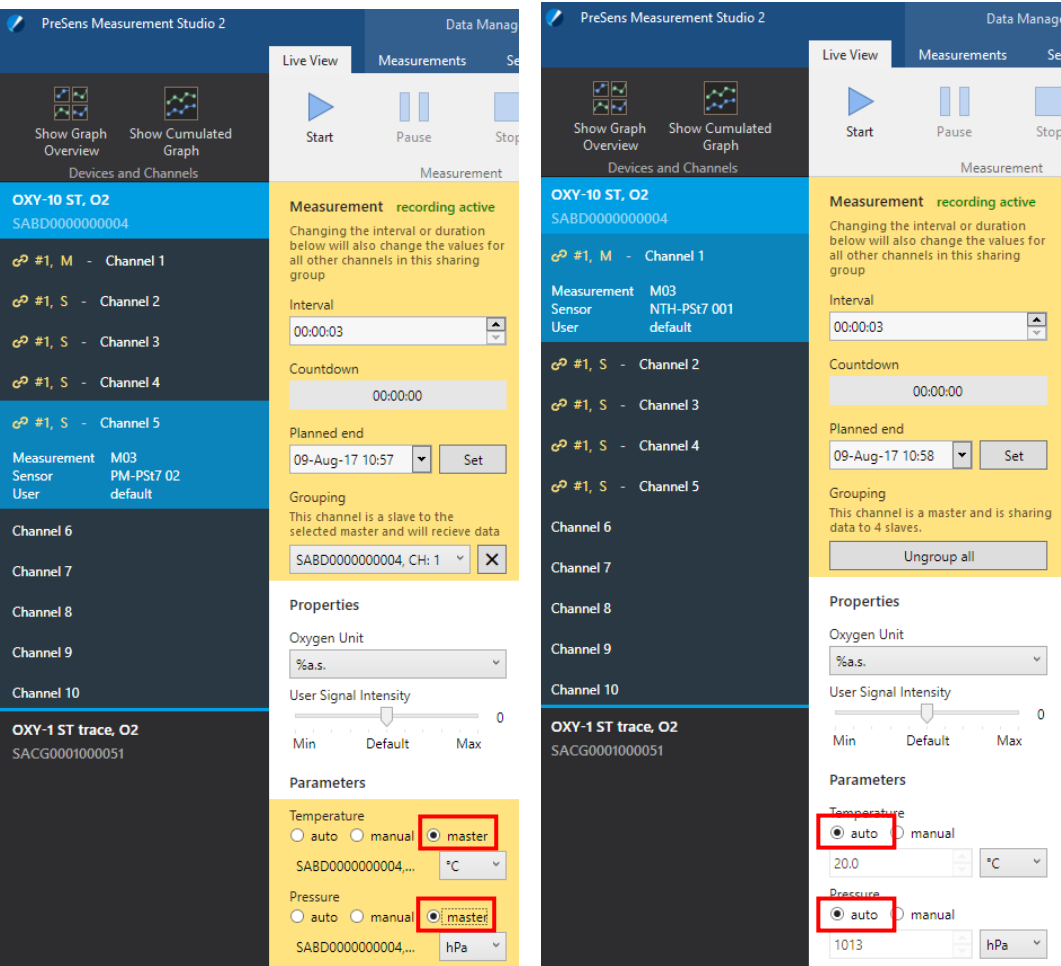
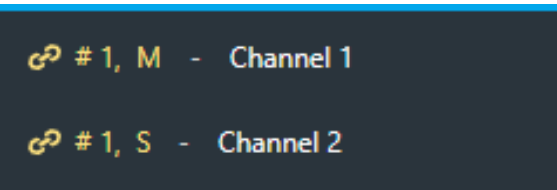

Fig. 43 Setting the Temperature and Pressure modes for the Slaves (left) and the Master (right).
Fig. 44 Grouping symbols: Linked status, group number, M for Master and S for Slave
- 4. Set each Slave channel's **Temperature** and / or **Pressure** input to **master** (see Fig. 43, left).
You will be able to distinguish grouped channels by a distinctive yellow background in the Live View of each channel (see Fig. 43) and grouping symbols in the channel list, see Fig. 44.